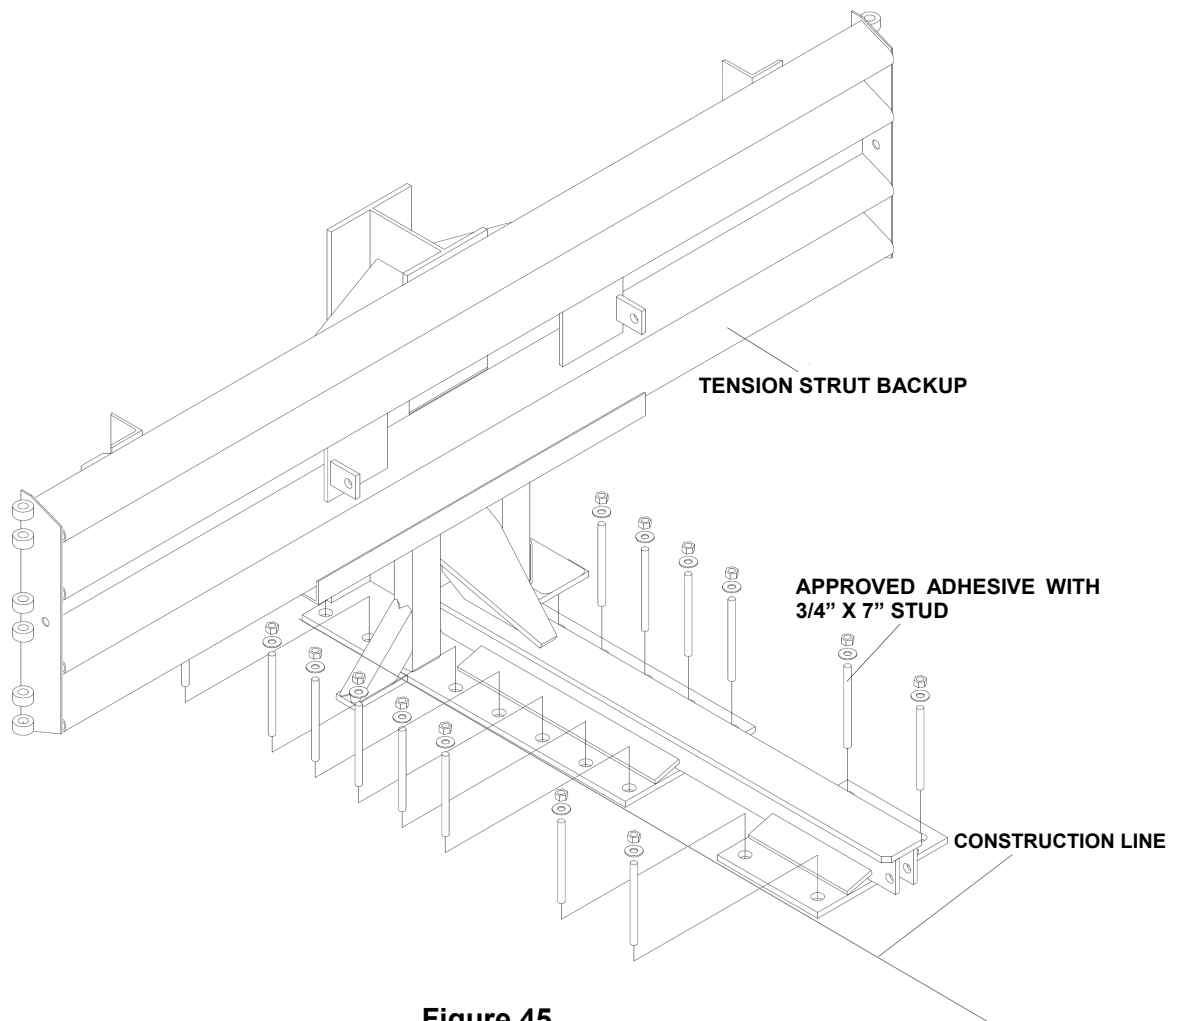
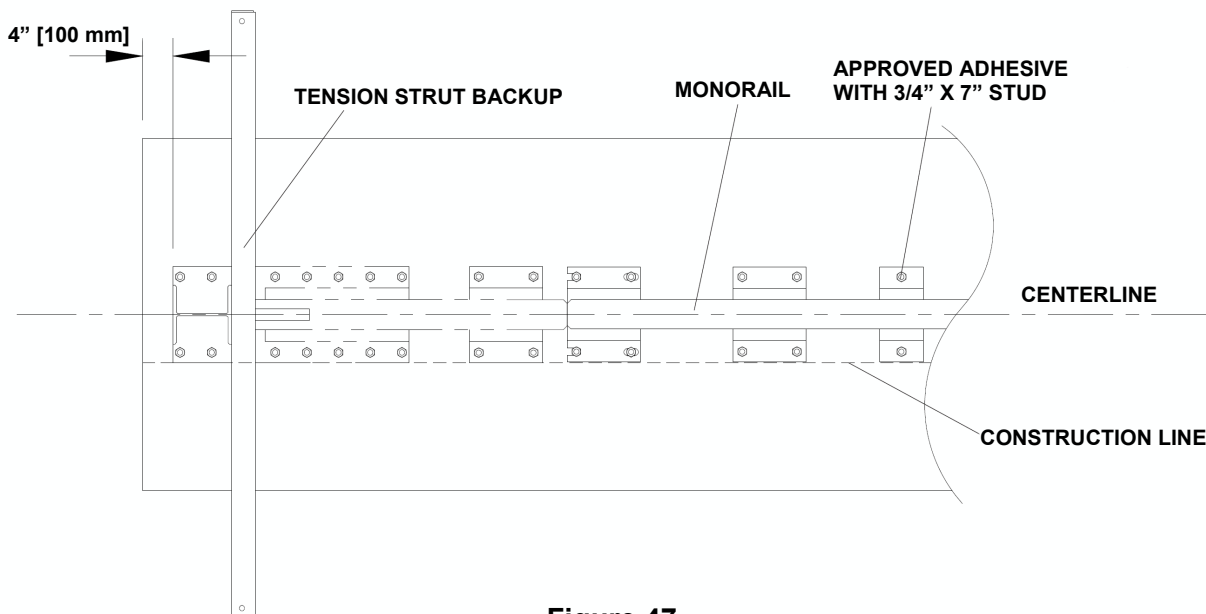

Figure 45
Figure 47
See Figure 45 (Backup Assembly) and Figure 47 (Monorail diagram). Also refer to the drawing package and the Approved Adhesive Anchoring section (p. 10).
A) Tension Strut Backup Assembly (Figure 45)
Locate the Backup and Monorail on the centerline of the pad with the side of the Monorail on the construction line as shown in Figure 45. Verify that the applicable Transition Panels fit properly before anchoring the Backup. Drill 5 1/2" [140 mm] deep anchor holes in the pad using the Backup as a template. Do not drill through pad. Anchor the Backup to the concrete pad using an approved adhesive (p. 10).
Locate the Monorail on the construction line as shown in the Monorail Assembly drawings. Drill 5 1/2" [140 mm] deep anchor holes using the Monorail as a template (Figure 47). Do not drill through pad. Anchor each Monorail section using an approved adhesive. See Figure 47 and the Approved Adhesive Anchoring System section of this manual for instructions (p. 10). It is important to assemble each segment of Monorail in alignment from the back to the front of the system ($\pm 1/4"$ [6 mm]).